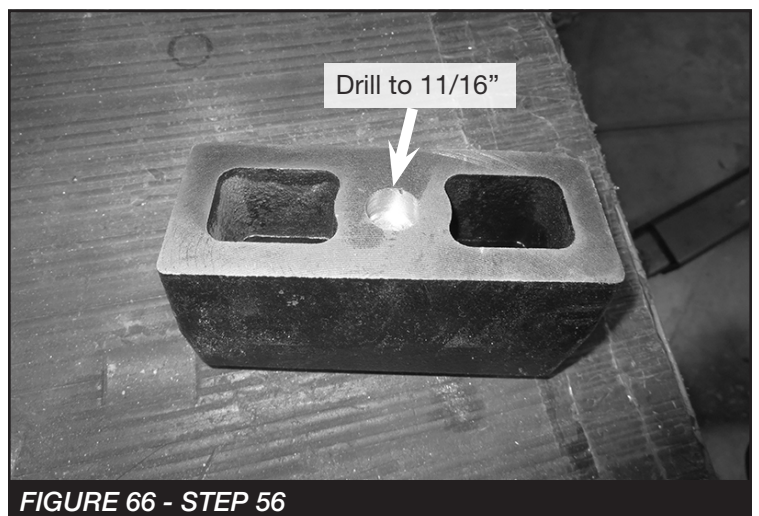

FIGURE 66 - STEP 56
56. Using 11/16" drill bit. Drill out the centering pin hole on both new blocks. **SEE FIGURE 66**